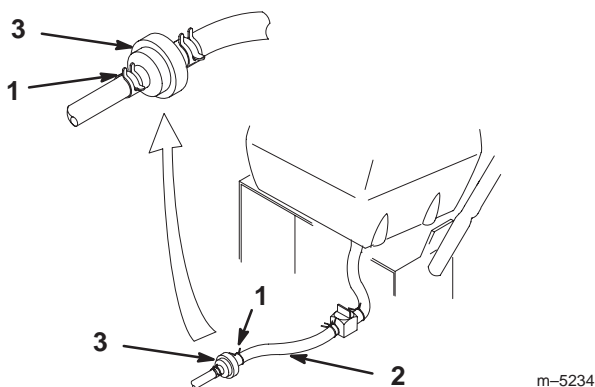

Figure 39
4. Squeeze the ends of the hose clamps together and slide them away from the filter (Fig. 39).